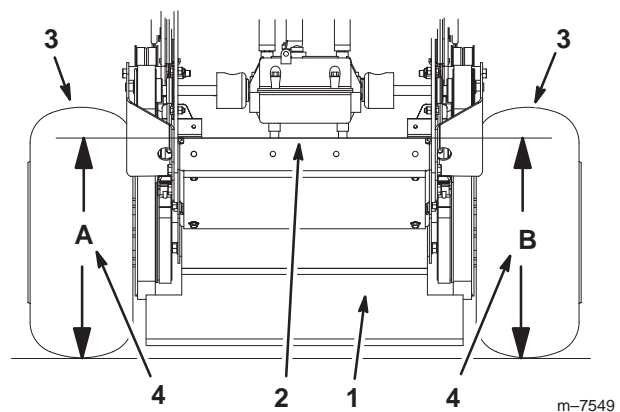

Figure 55
4. Measure engine deck height at location **A** (Fig. 55).
5. Measure engine deck height at location **B** (Fig. 55).